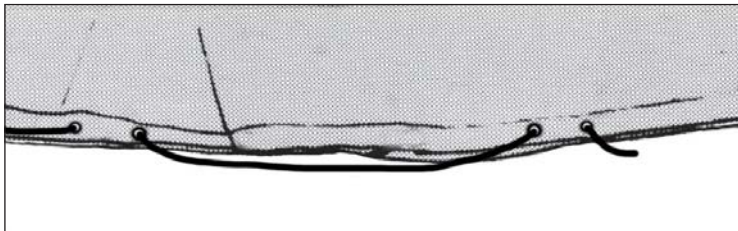

figure 2
5. Lace the vinyl pool cover cable through the grommets around entire pool. (figure 2)